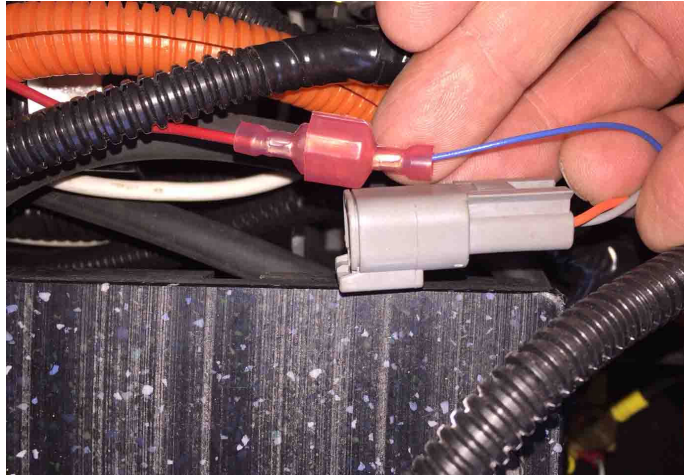

Fig. 28
2. Plug in the quick connector on this red wire to the blue wire that is in the same wire loom as the CANBUS dongle. (Fig. 28)